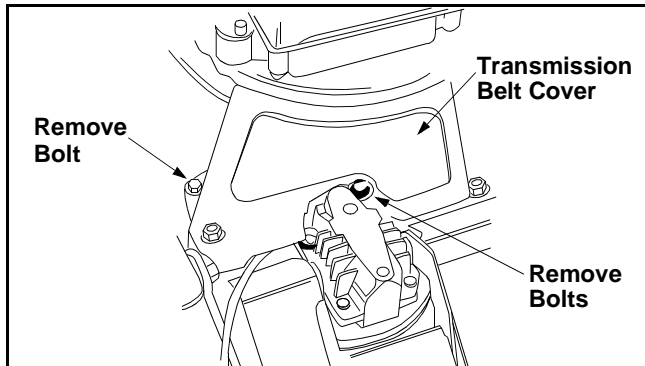

Figure 12
- Remove the transmission belt cover by removing three bolts. See Figure 12.